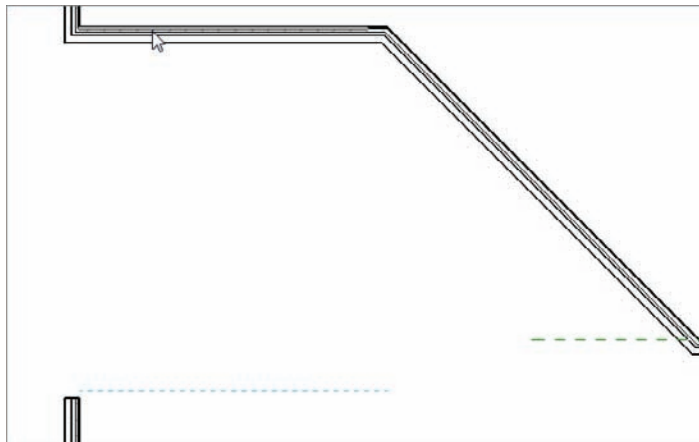

FIGURE 2.12 Adding a wall using the built-in offset function may take a few tries to get the method down.
4. Move your cursor over the outside face of the wall, as shown in Figure 2.12. When you see the alignment line appear below the wall, pick the outside face.